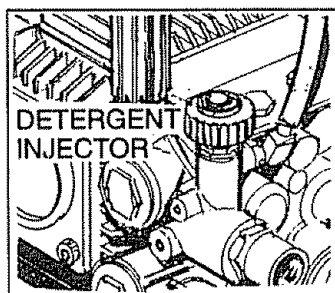

FIG. 15
- Start washer and apply detergent to a dry surface, starting from the bottom and working up. You can adjust the concentration of detergent by turning the knob on the detergent injector (Fig. 15).